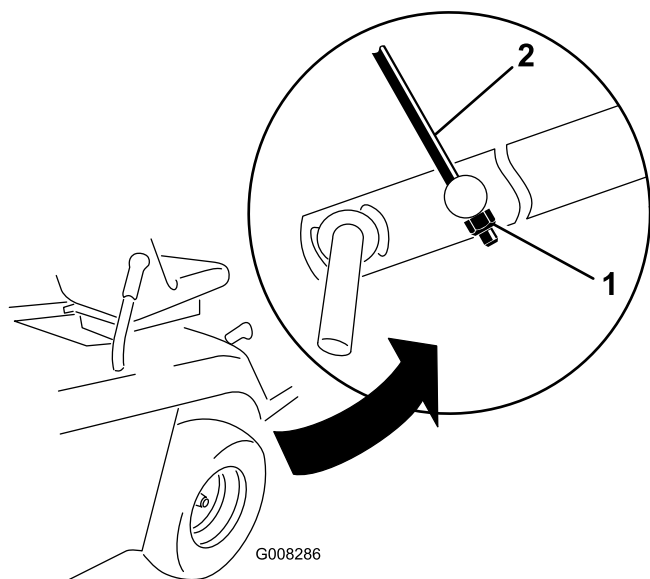

Figure 40
9. Adjust the M8 locknut at the end of the height adjustment rod assembly until the rod is slightly taut (Figure 40).